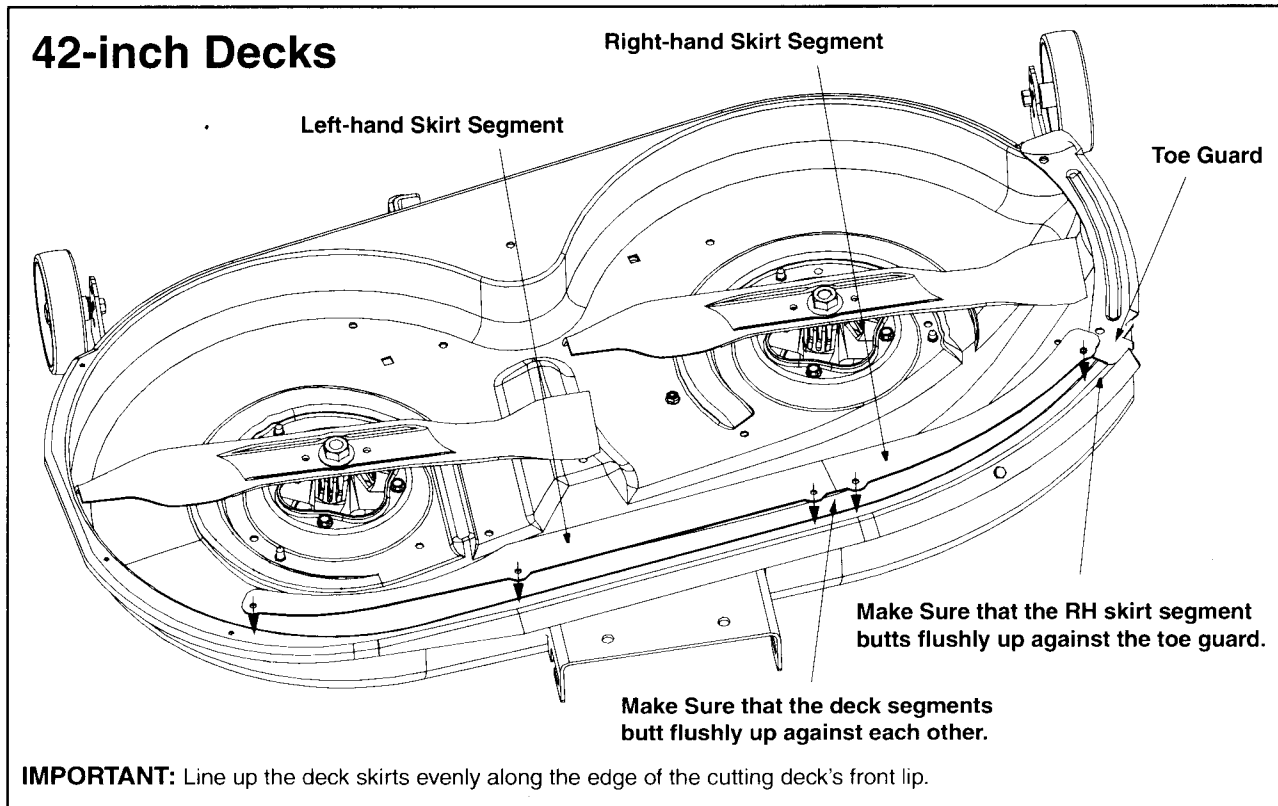

Figure 6
4. Position the deck skirt segments over the front edge of the cutting deck as illustrated in Figure 6. Use locking pliers or C-clamps to secure the skirt segments in place.